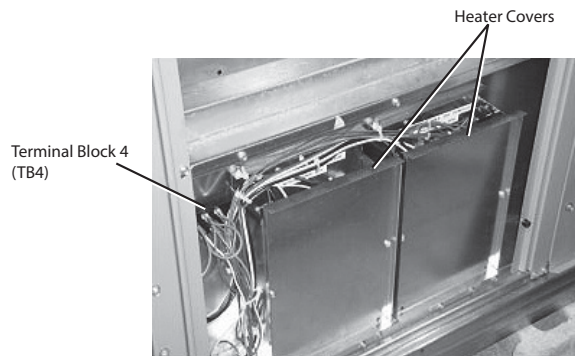

Fig. 50 - Heater Wiring and Covers
4. Fasten heater cover to heater module with 2 screws provided with heater. Flanges of cover must face out. (See Fig 50).